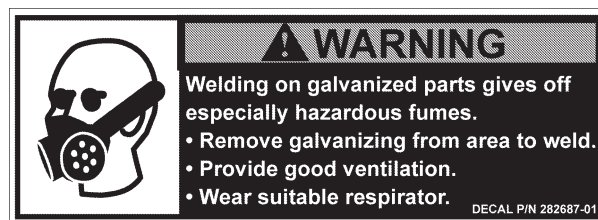

FIG. 7-1
- Welding on galvanized parts gives off especially hazardous fumes. Comply with WARNING decal on the galvanized part (**FIG. 7-1**). To minimize hazard remove galvanizing from weld area, provide adequate ventilation, and wear suitable respirator.